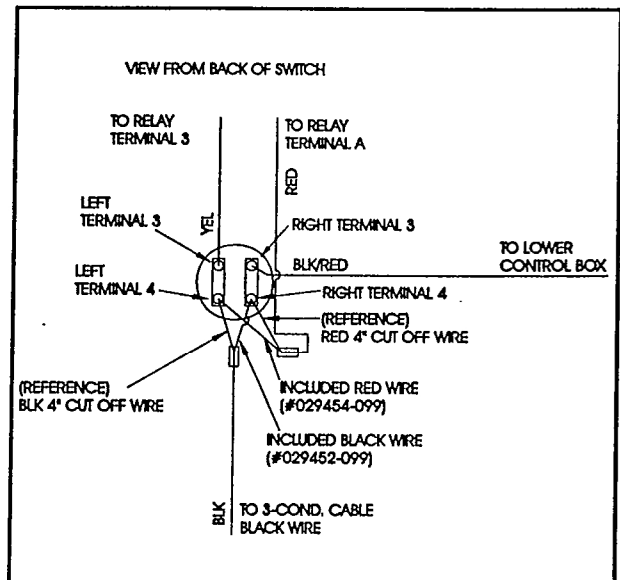

Figure 5
5. Prepare the ends of the included black wire (#029452-099). Using the large butt connector (#029620-003), connect this wire and the 4 inch cut off wire to the end of 3-conductor cable black wire. Figure 5.